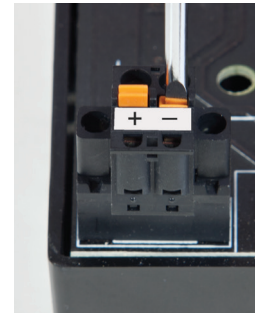

Figure 5.2- Spring-clamp
2. When wiring to spring-clamp terminals, use a screwdriver with a 3-4 mm blade and depress the spring-clamp button before inserting the termination cable. See Figure 5.2.